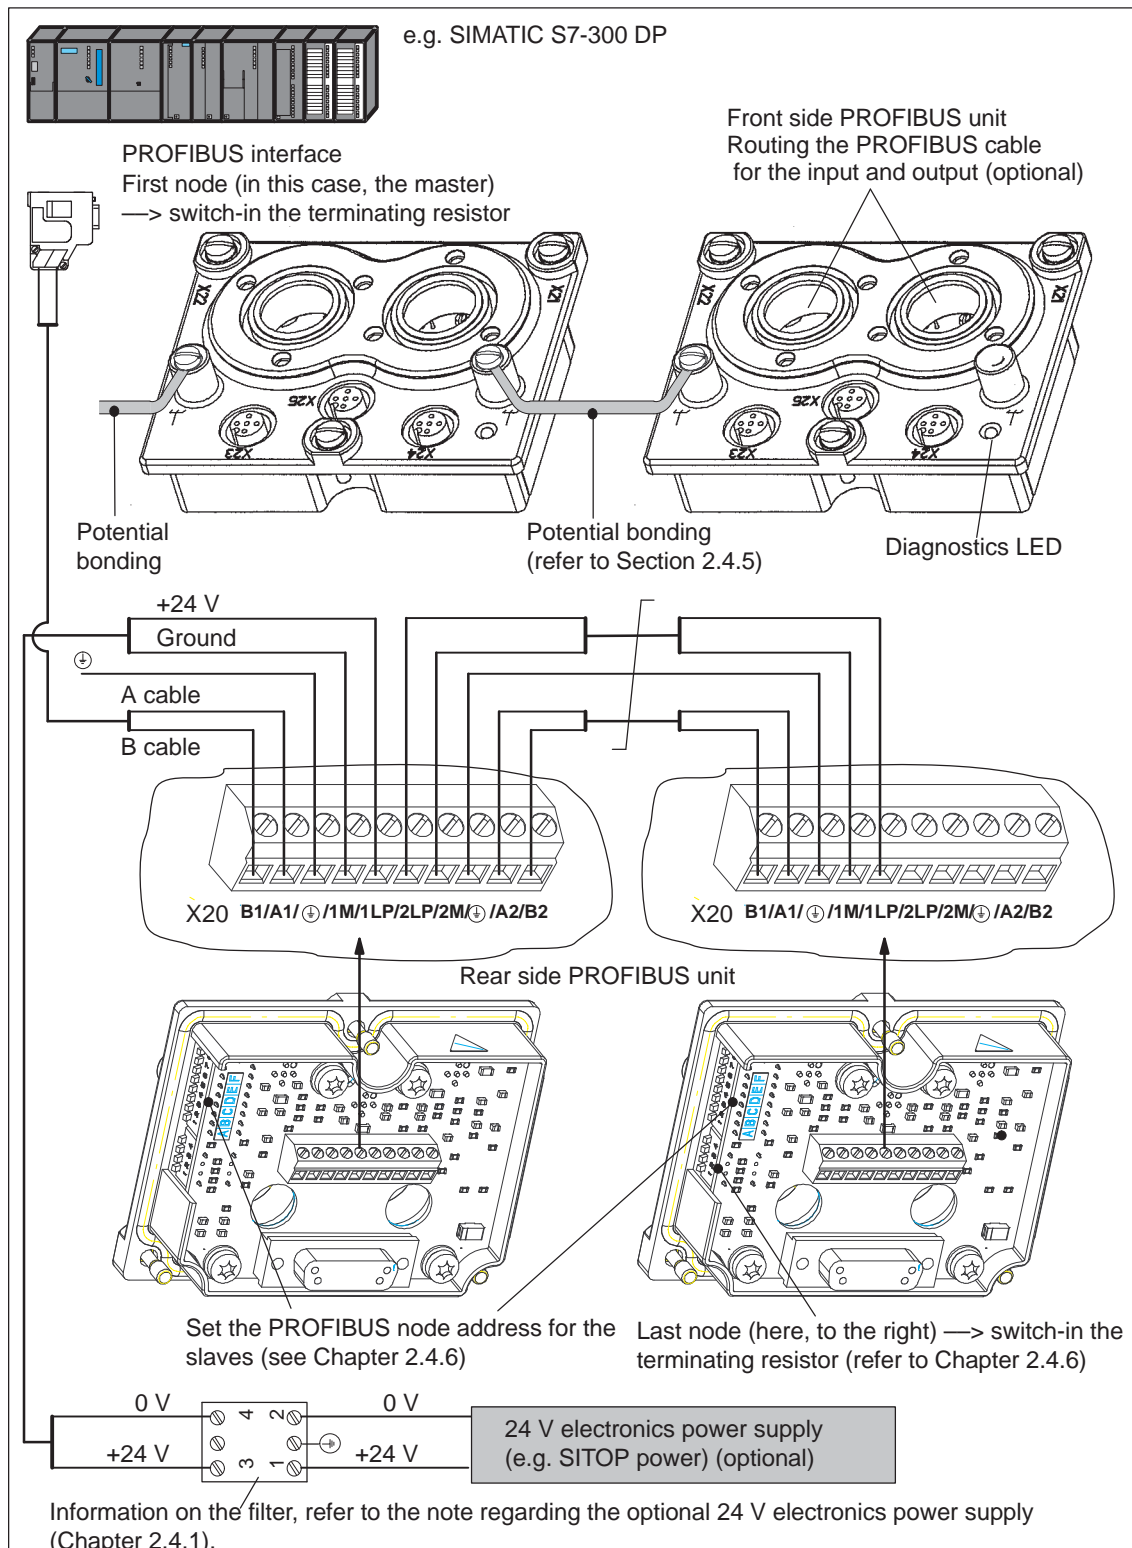

Fig. 2-20 Connection and wiring overview, PROFIBUS cable (example with additional electronics power supply)
Recommendation: Route the potential bonding conductor in parallel to the PROFIBUS cable (cable cross-section, 4 to 16 mm2). There are 2 M5 threads available on the PROFIBUS unit (see Fig. 2-20).
- In order to increase the immunity against transient interference and disturbances (burst) and to maintain the limit values of EN 61000-6-2, an interference suppression filter should be connected at the shielded cable entry point using a short connection (<15 cm) with respect to PE (refer to Fig. 2-20).